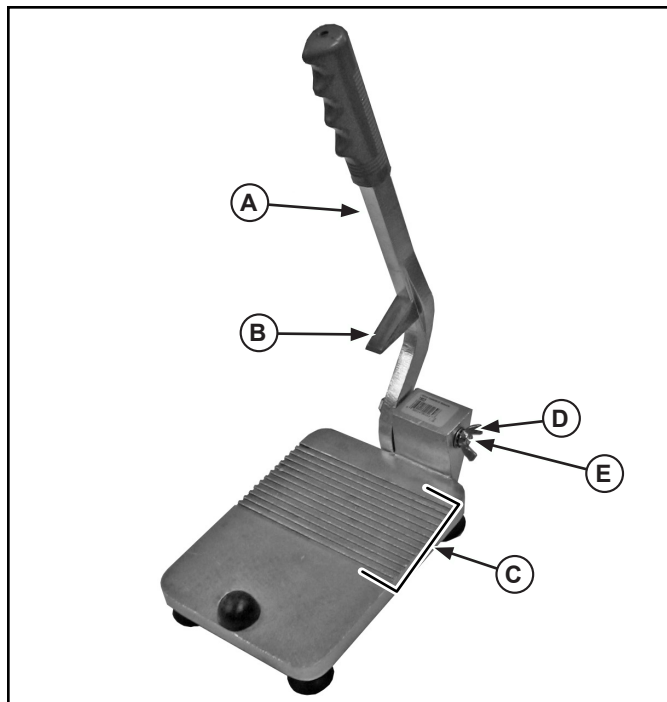

Figure 2. Features and Controls, Oyster King.
1. Lift the handle (A) and place an oyster or clam onto the base (C) positioning in one of the grooves with the seam side up. See Figure 2.
2. Slowly lower the blade point (B) onto the seam of the food product